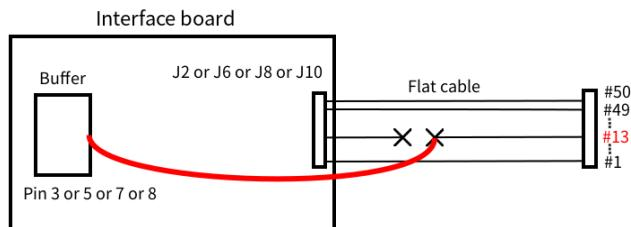

Figure 1.27: How to connect the #13 wire to the buffer.
7. Pins 3,5,7,8 of the buffer chip represent the output of the buffer. Connect each pin to the wire number 13 of the flat cables coming off J2, J6, J8 and J10. The order is not relevant. Of course, in the case of the SideMRD, only one connection is needed (for example J2). Refer to Figure 1.27 for a visual explanation.